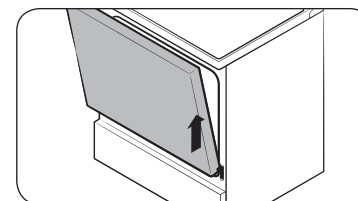

Fig. 2
5. Lift the door up and out until the hinge arm is clear of the slot (Fig. 2).